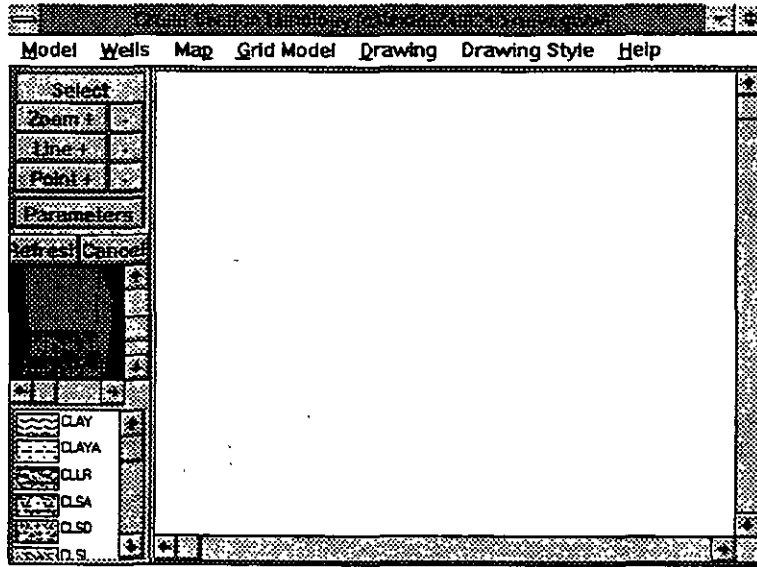

Figure 17-1
17.1.2. Application's Content As shown in Figure 17-1, the Fence Diagram application is comprised of the following major options: